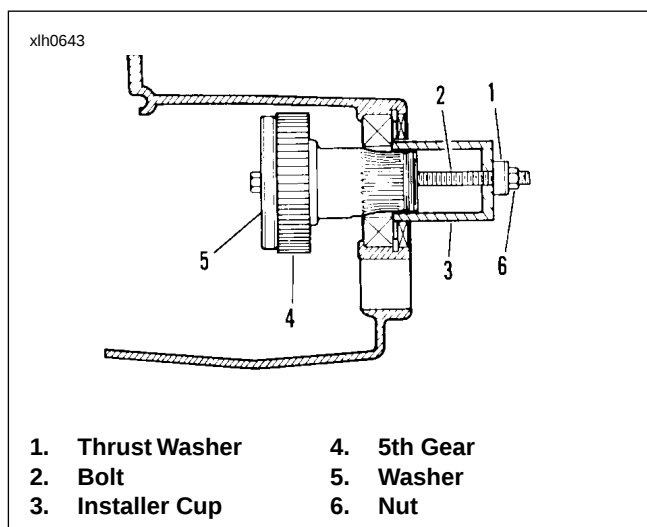

Figure 6-53. Main Drive Gear Installation
2. See Figure 6-53. Use MAIN DRIVE GEAR REMOVER AND INSTALLER TOOL for assembly.
- a. Take bolt (2) and place washer (5) followed by main drive gear (4) over end of bolt.
- c. Insert threaded end of bolt (2) through installer cup (3) and thrust washer (1).
- d. Thread nut (6) onto end of bolt (2). Tighten nut (6) until shoulder on gear (4) bottoms against inner race of bearing.